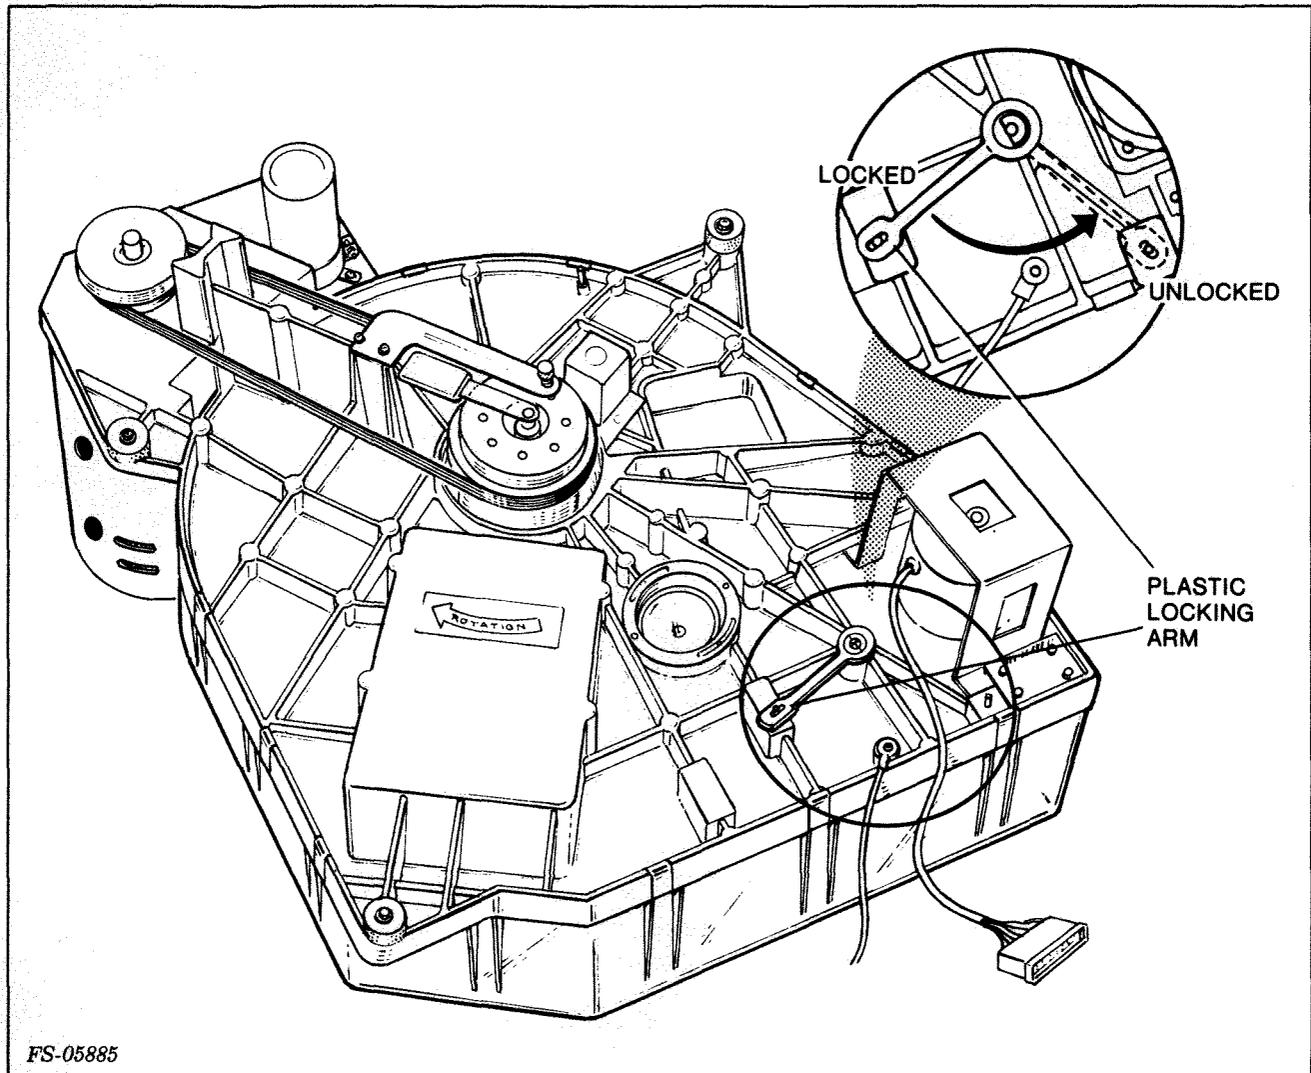

Figure 5-16. Sealed Data Module, Plastic Locking Arm
4. Place the plastic locking arm onto the locked pin. The plastic locking arm is located under the bottom cover near the front of the drive (see Figure 5-16).